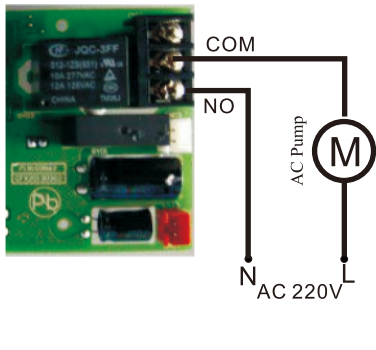
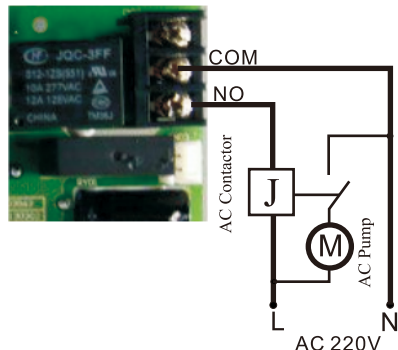

Figure 3-7 Wiring of Booster Pump on Inlet
Figure 3-8 Wiring of Booster Pump on Inlet
**Instruction:** If inlet water pressure is less than 0.15MPa, which makes backwash or brine difficult, a booster pump is suggested to be installed on inlet. Control mode set to b-01. When system in regeneration cycle, booster pump is open, the wiring refers to Figure 3-7. If the booster pump current is bigger than 5A, the system needs to install a contactor, the wiring refers to Figure 3-8.